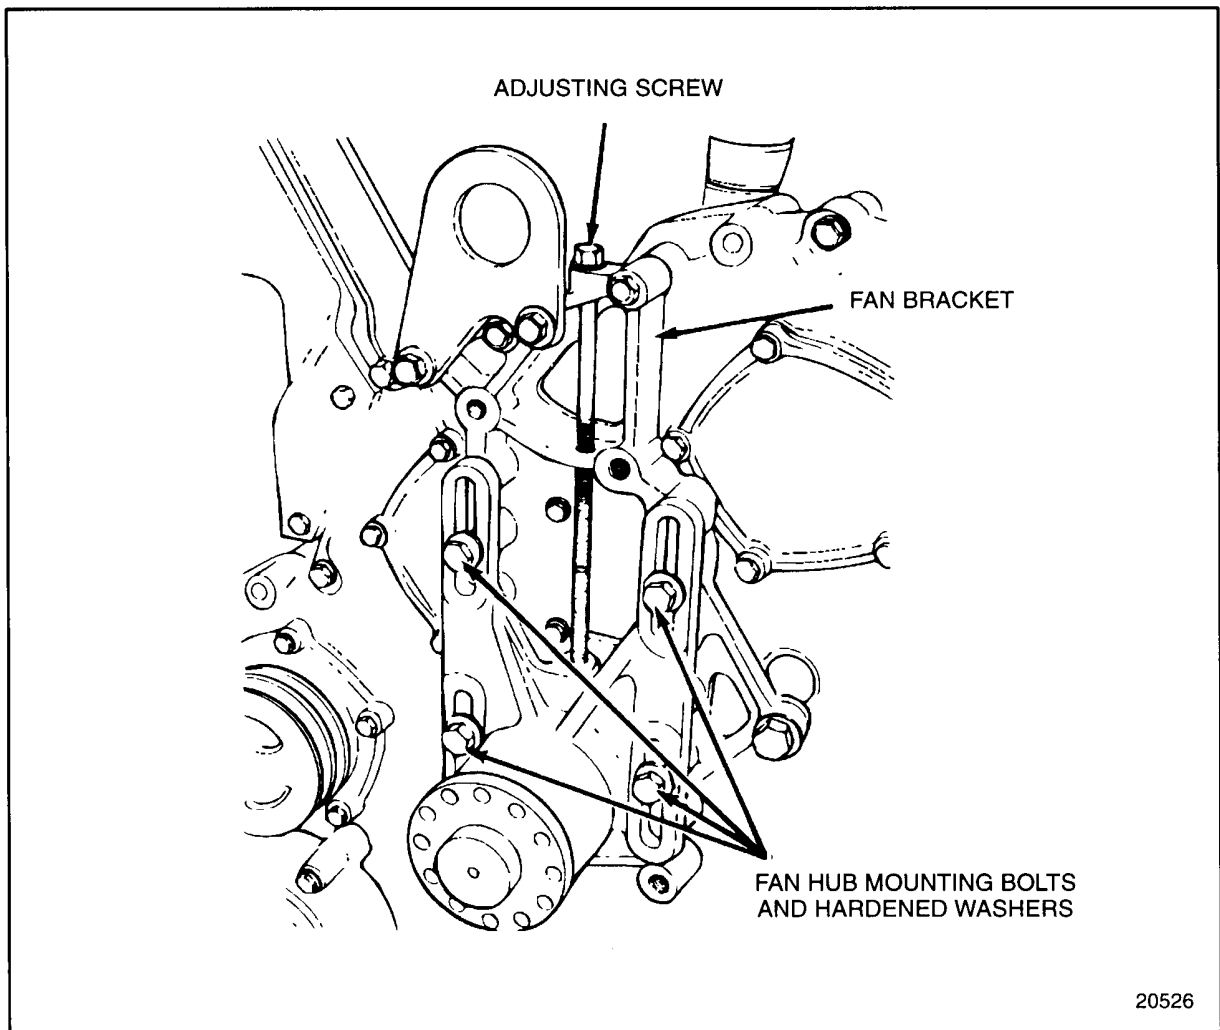

Figure 4-44 Fan Hub Mounting
The fan hub utilizes four elongated mounting holes and a single threaded rod for adjustment. The fan hub is mounted to the fan support bracket with four bolts. See Figure 4-44.
2. Loosen the four fan hub-mounting bolts. See Figure 4-44.